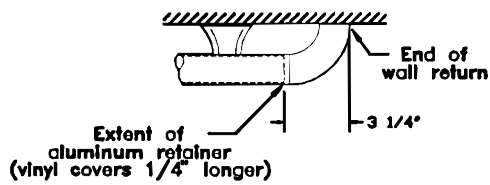

Fig 2
- Step 2:** Cut aluminum. All ends must be checked for squareness before assembly. See **fig. 2, 3** and **4** for adjustments to aluminum length at corners and wall returns.